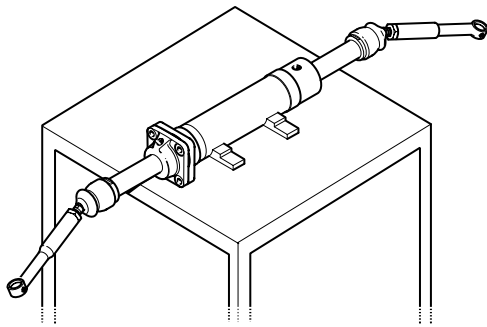

Fig 2.
- 1 Fix the assembly on a locally made strip/rebuild bench. → Fig 2. (H6-5)